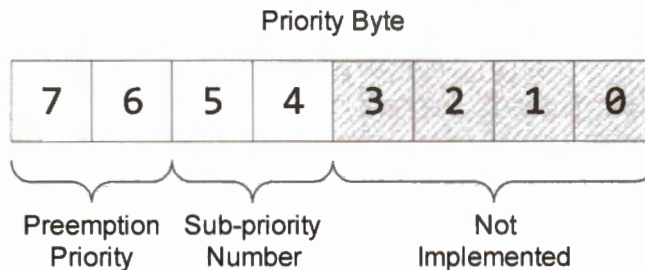

Figure 11-7. Interrupt Priority Byte of STM32L by default
STM32L processors allow five different schemes to split the four-bit priority number. If we use n bits for the preempt priority number, then the sub-priority number has $4 - n$ bits, where $n = 0, 1, 2, 3$, or 4. By default, two bits are used for the preempt priority number, and two bits are used for the sub-priority number, as shown in Figure 11-7.
- Also, the subroutine shifts the priority left by four bits because the lower four bits of each priority register are not used in STM32L processors (see Figure 11-7).